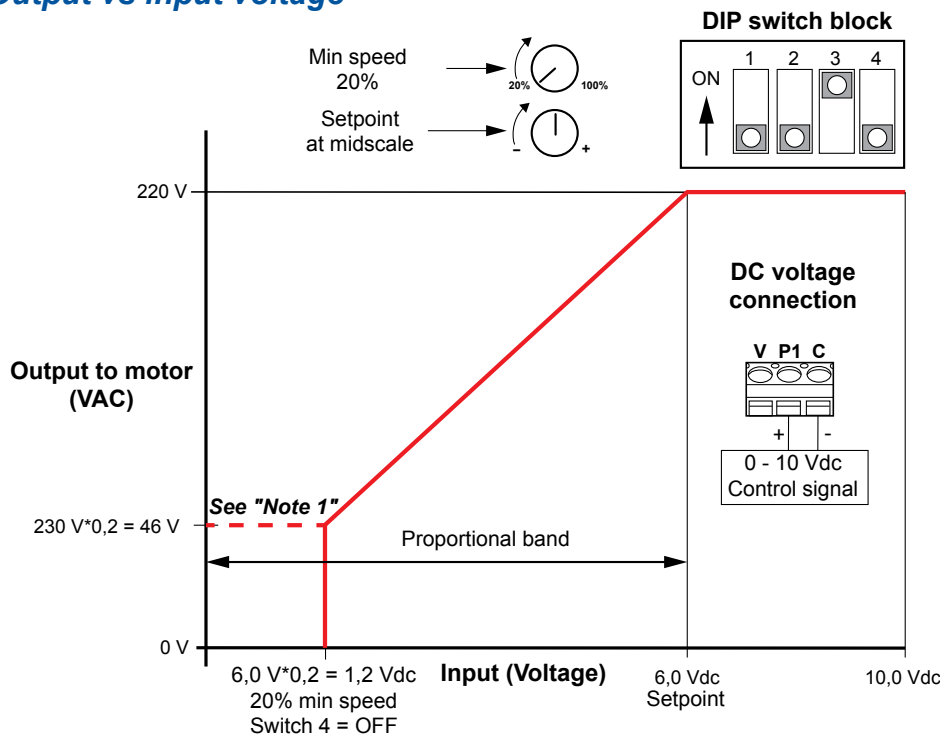

Figure 3
- If the setpoint potentiometer is adjusted midway between "-" and "+", then the motor will run at full speed when $V_{in} = 6,0$ Vdc (see Figure 3).